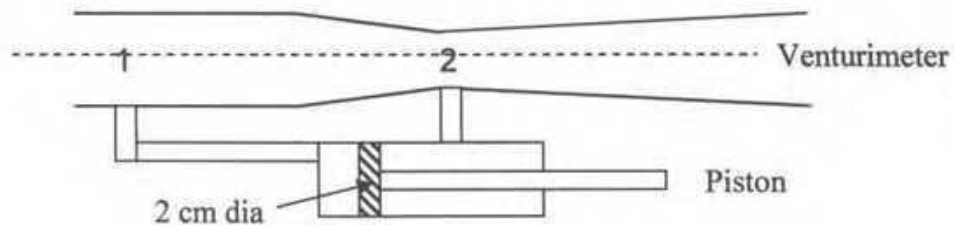

Figure 7
- d. Two sides of a cylinder fitted with a piston are connected to the inlet and the throat of a horizontal venturimeter as shown in Figure 7. If the diameter at the inlet and the throat are 10 cm and 6 cm respectively and the velocity of water in the pipe is 5 m/s, calculate the force on the piston. The diameter of the piston is 2 cm. Ignore losses. 9